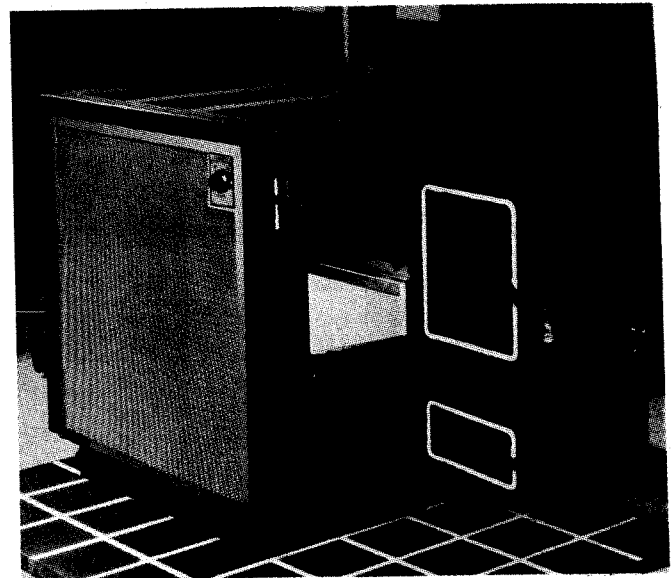

Fig. 31. U.S. Stove's Wonderwood.
14. **United States Stove Co.** (manufacturer), South Pittsburg, TN 37830. Wonderwood comes in a deluxe model, 2601, which is constructed with cast-iron loading door and ash door and improved grates. Doors on all models are gasketed for tight seal. Wondercoal burns 50 pounds in one load. Both have nonelectric thermostats. See Fig. 31 and Table 3.